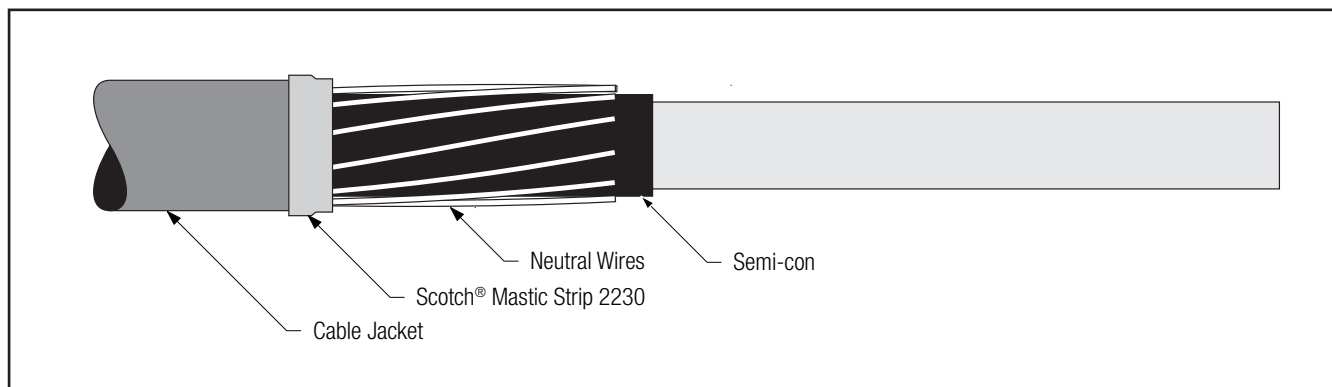

Figure 2
- 2.4 Select a Scotch® Mastic Strip 2230 from the kit and remove white release liners. Using light tension, apply a **single wrap** of mastic at the edge of the cable jacket and partially over the neutral wires. (*Figure 2*).